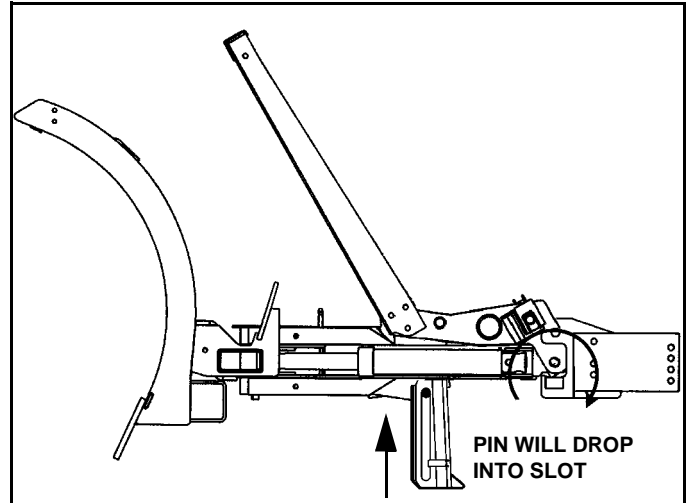

Figure 1-17
3. Manually rotate the light/lift bar into position by placing plow in float mode and pushing on the light bar. (See Figure 1-17).